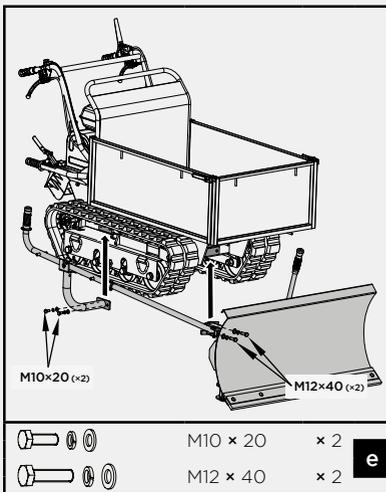

Figure 14
7. Install the already assembled plow blade to the tracked barrow as shown on figure 14.